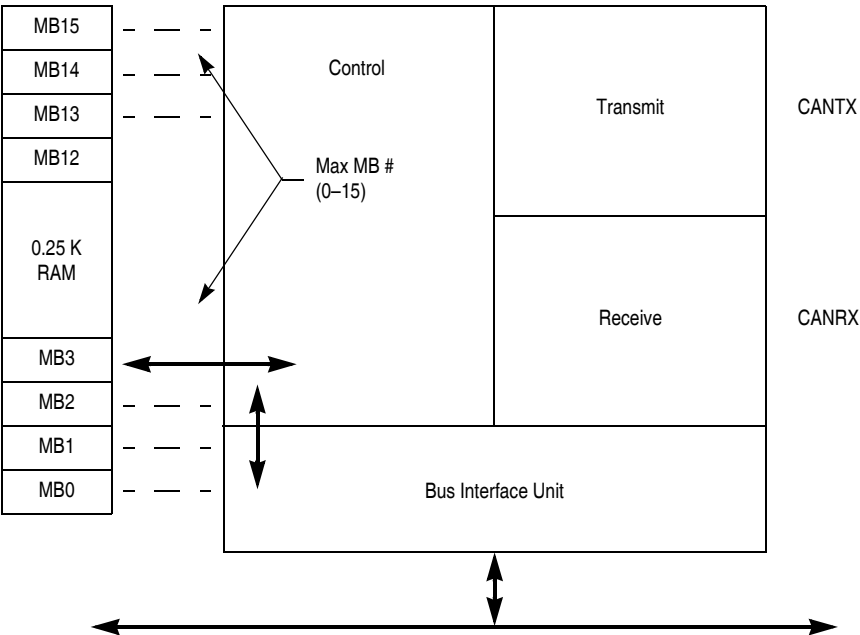

Figure 2. FlexCAN System Block Diagram
The FlexCAN (FC) module is a communication controller implementing the controller area network (CAN) protocol, an asynchronous communications protocol used in automotive and industrial control systems. It is a high-speed (1 Mbit/sec), short distance, priority-based protocol able to communicate using a variety of media. The FlexCAN module supports both the standard and extended identifier (ID) message formats specified in the CAN Protocol Revision 2.0 Specification, Part B. The CAN protocol was designed as a vehicle serial data bus, meeting the specific requirements of this field: real-time processing, reliable operation in the EMI environment of a vehicle, cost-effective, and required bandwidth. Knowledge of the CAN protocol, revision 2.0 is assumed. For details, refer to the CAN Protocol Revision 2.0 Specification. Figure 2 shows the FlexCAN module system block diagram.